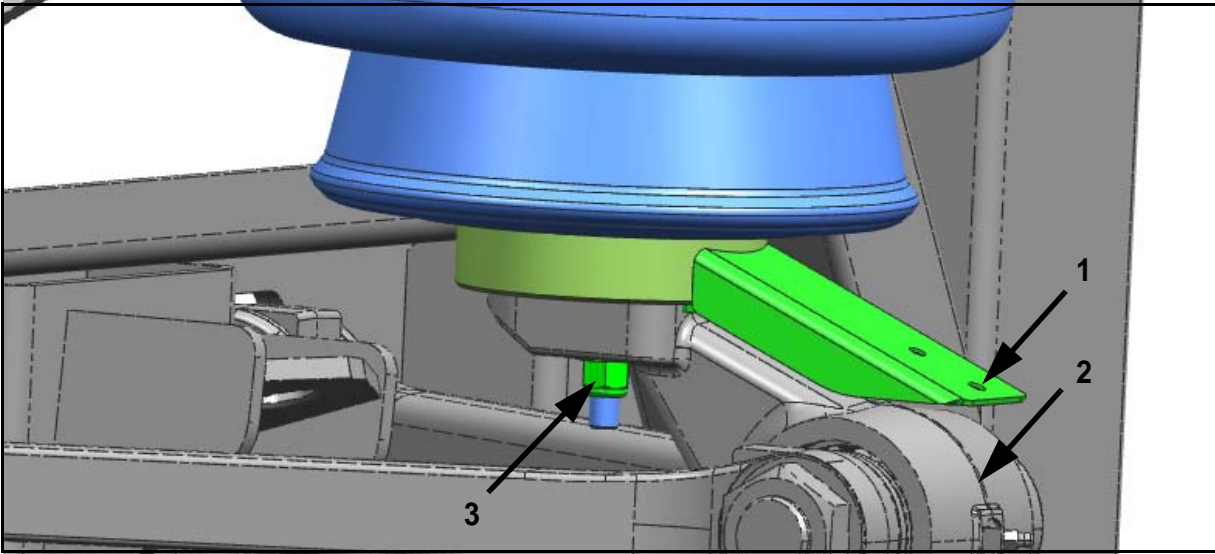

Figure 9.
15. Using a square or straight edge, ensure that the geometry of the first brake hose clamp is parallel to the center of the kingpin (refer to Figures 9 and 11)
If adjustment is required, loosen (do not remove nut from stud) the nylock nut on the airspring assembly and orient to achieve the brake hose clamp parallel to the center of the kingpin (refer to Figure 9). Torque nylock nut to 40-50 ft-lbs.
Item	Figure 9 Description